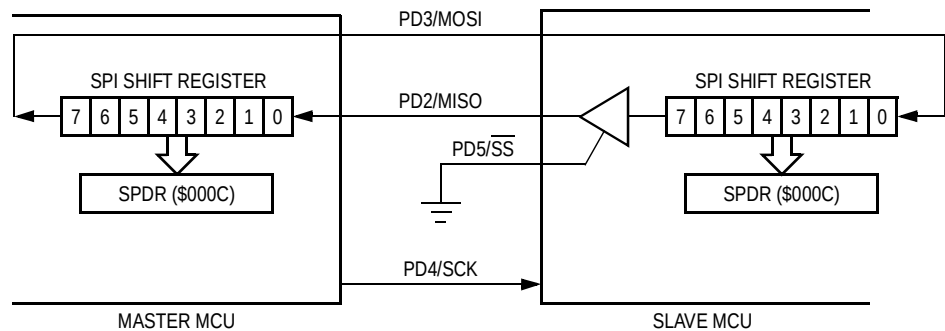

**Figure 11-3. Master/Slave Connections**
**Figure 11-3** shows how a master SPI exchanges data with a slave SPI.